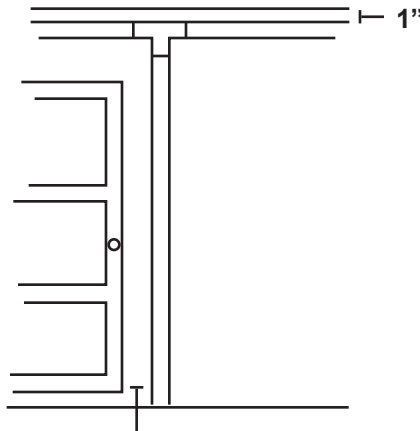

Figure 11. 2"
- Install cable molding so that it meets the ground to enhance the aesthetics of the installation. (Figure 11)